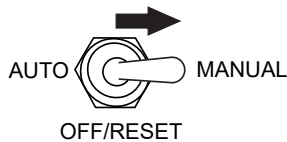

Figure 46. Auto Start/Stop switch (Manual Position)
2. To start the engine, place the **Auto Start/Stop switch** in the **MANUAL** position (Figure 46).